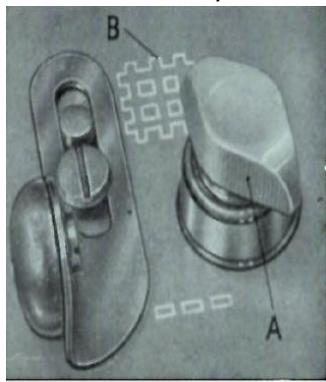

Figure 28
- Turn the Drop feed dog button A (figure 28) either clockwise or counter-clockwise so that one of the 2 prongs on either side of the button is facing the square alignment mark B on the bed plate of the machine.
- Push button A down (figure 28). The button will remain down and one of its side prongs will rest on the square alignment mark B on bed plate.